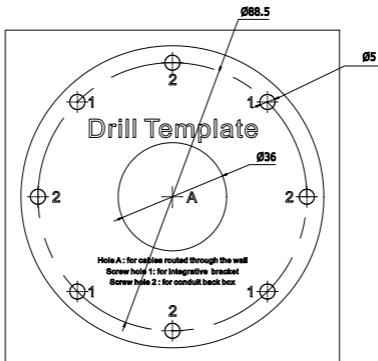

Figure 2-3 Drill Template
2. Drill the screw holes for the junction box according to Hole 2 of the drill template. See Figure 2-3.
(Optional) If you want to route cables through the wall, cut a hole according to Hole A of the drill template. See Figure 2-3.